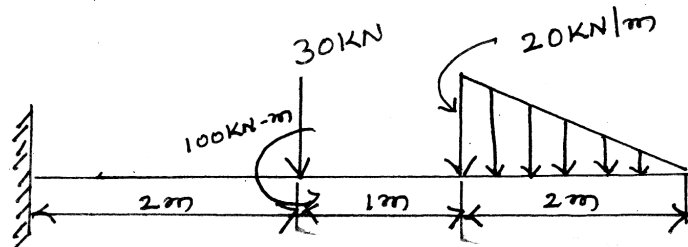

Fig Q 6(a)
- 6 a. Draw the shear force and bending moment diagram for the beam shown in Fig. Q 6(a) locate the point of contra flexure if any. 8